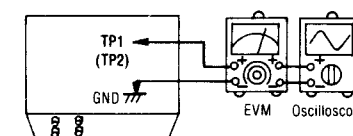

Fig. 6
- The serial number plate of this product is attached to the back chassis (shown in fig. 6).
1. Test equipment connection is shown in Fig. 6.